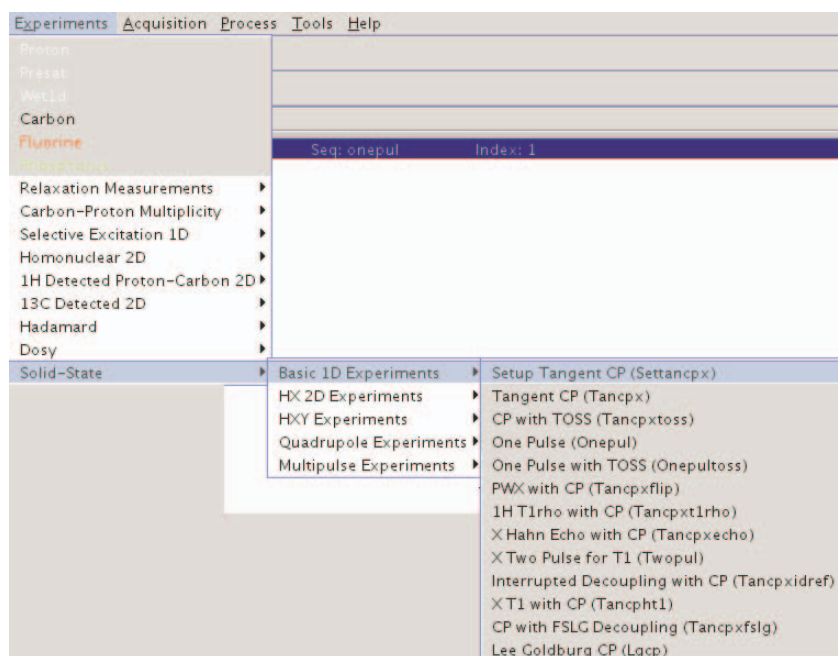

Figure 78. Solids Experiments and Menus
2. Load the protocol **Settancpx** from either the Experiment Panel, see Figure 77A, or from the Experiments drop down menu, see Figure 78, to initialize a workspace for the solids experiments.
3. Select an **experiment group**, see Figure 78.
- c. Select an **experiment group**, see Figure 78.